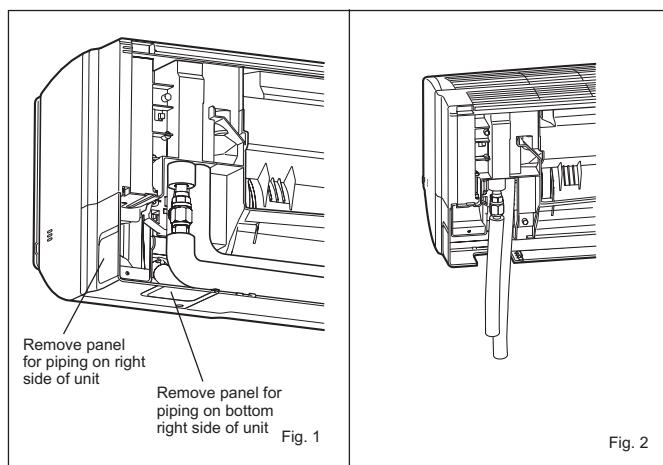

Fig. 2
- Attach conduit pipe (for rear piping) / elbow joint (for right, left, or downward piping) to conduit plate with lock nut. The thread of the installed conduit pipe / elbow joint appearing inside should be less than 3/8 in. (10 mm). (Fig. 1) Elbow joint should appear less than 1-3/16 in. (30 mm) outside. (Fig. 2)
- In case of bottom piping (Fig. 2)